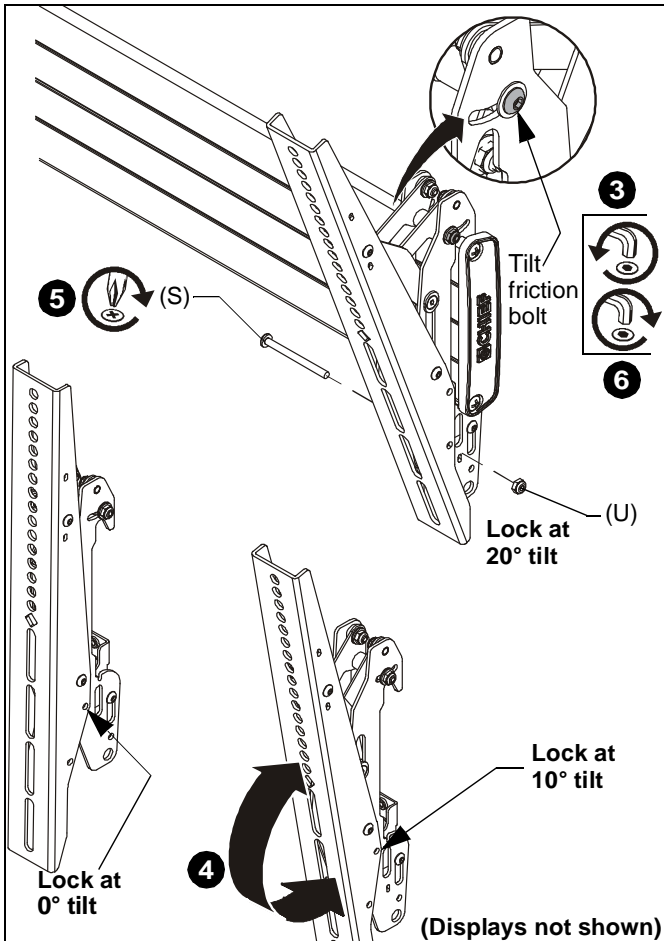

Figure 11
3. If necessary, loosen buttonhead tilt friction bolt (located on side of interface bracket). (See Figure 11)
4. Adjust tilt as required. (See Figure 11)
5. The tilt may be locked at 0°, 10° and 20° using one 10-24 x 2-1/4" Phillips head screw (S) and one 10-24 lock nut (U) per interface bracket. (See Figure 11)